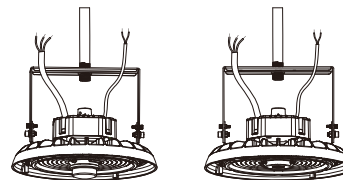

Figure 10
Step3. Re-screw the nuts. (Figure 10),After installation, connect the wire of the fixture to the mains according to local wiring rules, ensure the connection is stable and make good protection on the connection. By adjusting the brackets screws, users can adjust 50° to the left or right vertically.